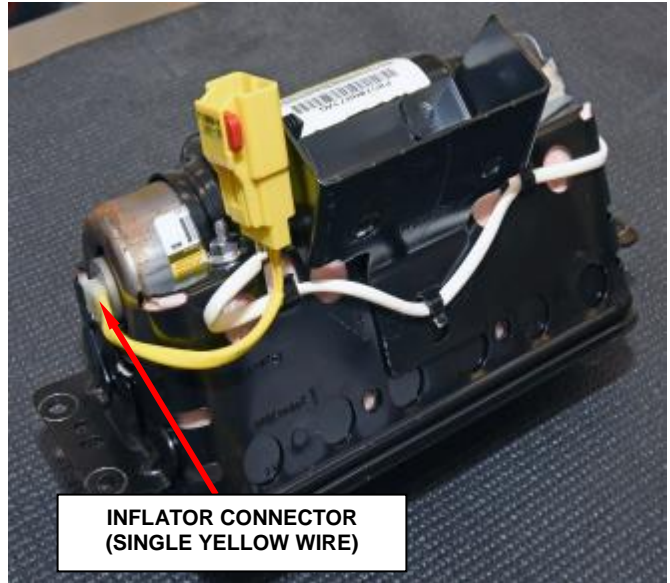

Figure 53 – Inflator Connector
b. Use pliers to grasp the single yellow wire inflator connector then wiggle as you pull up until it is disconnected from the inflator (Figure 53).